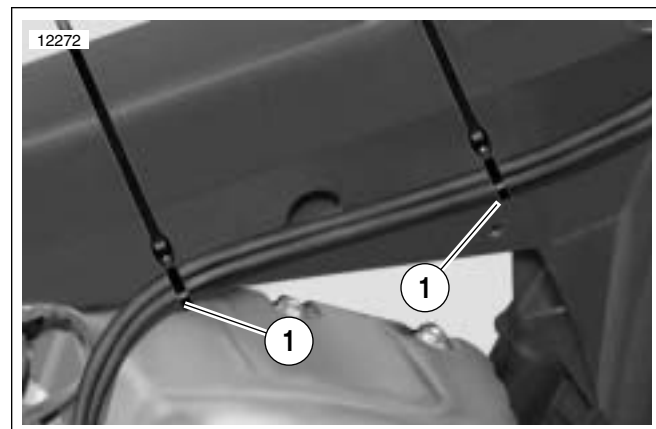

Figure 2. Cable Strap Installation
1. See Figure 2. Install **new** cable straps (1) so after installation, ends of cable straps are pointing towards top of vehicle.
2. See Figure 2. Install **new** cable straps (1) so after installation, ends of cable straps are facing top of vehicle.
3. See Figure 2. Install **new** cable straps (1) so after installation, ends of cable straps are facing top of vehicle.